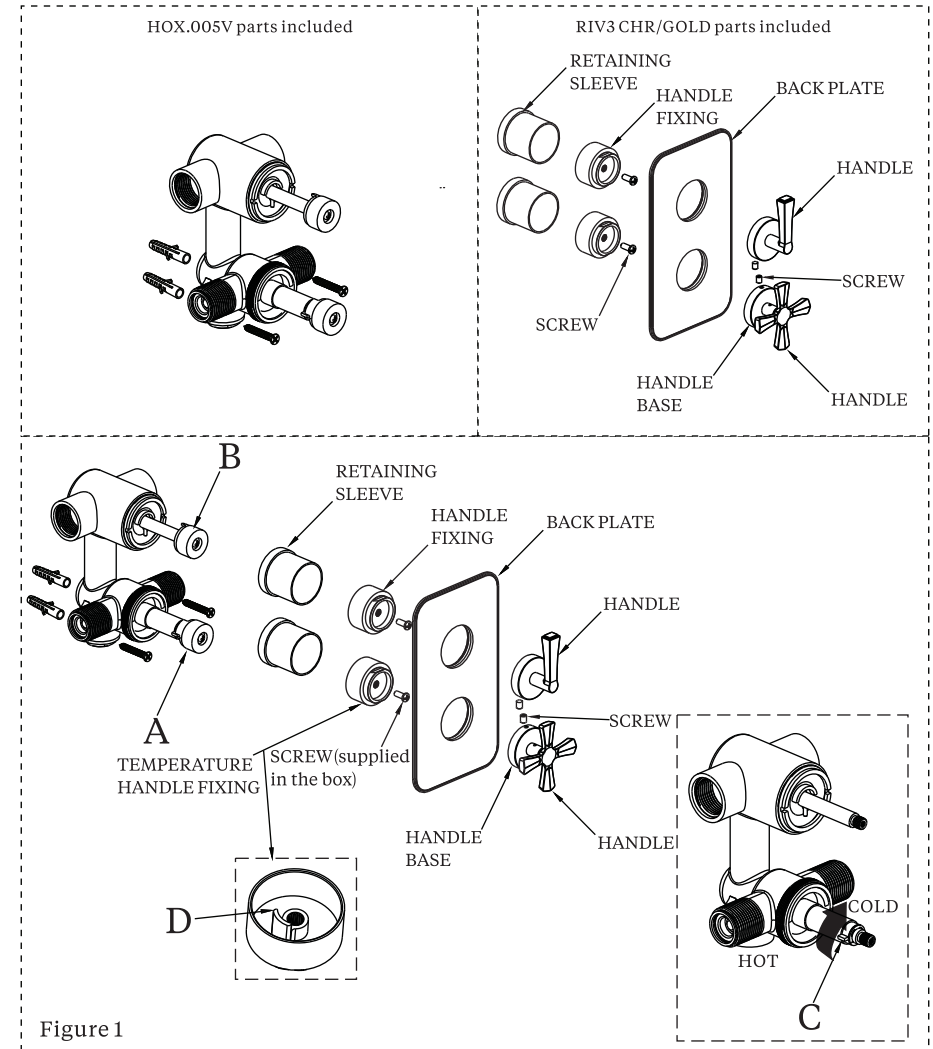

Figure 1
2. Parts should be assembled in sequence illustrated by Figure 1.
3. Mount casting to the wall using suitable fixings (See Fig 1).
5. Two outlet are recommended for use, one is for a main shower head, the other for a flexible shower kit. The pipe connection is recommended as the diagram above ((See Fig 1).
The suggested maximum "pre-set" temperature is 42°C. (See Fig 1)